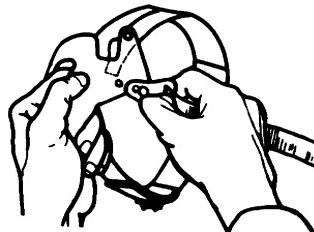

Figure 7
3. Align holes on chin strap to stud buttons and pull downward to lock in place (see Figure 7).